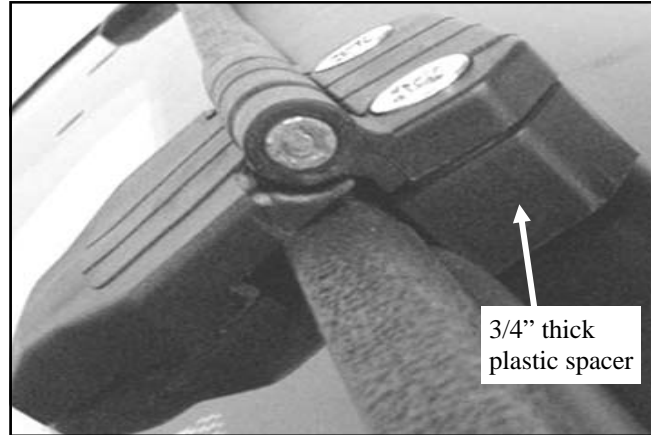

Fig. 13.1
13.1 Install 3/4" thick plastic spacers from hardware box on to windshield hinges and insert four flat head bolts. See figure 13.1.